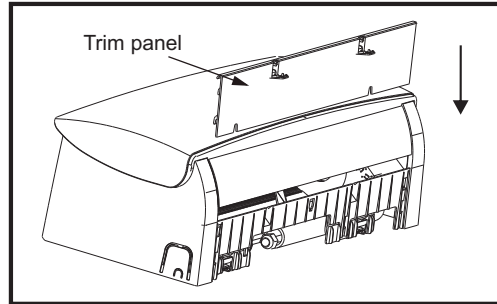

Fig. 20
- 8) Install the trim panel onto the indoor unit as shown in Fig. 20, then install the screw, and close the screw cover.